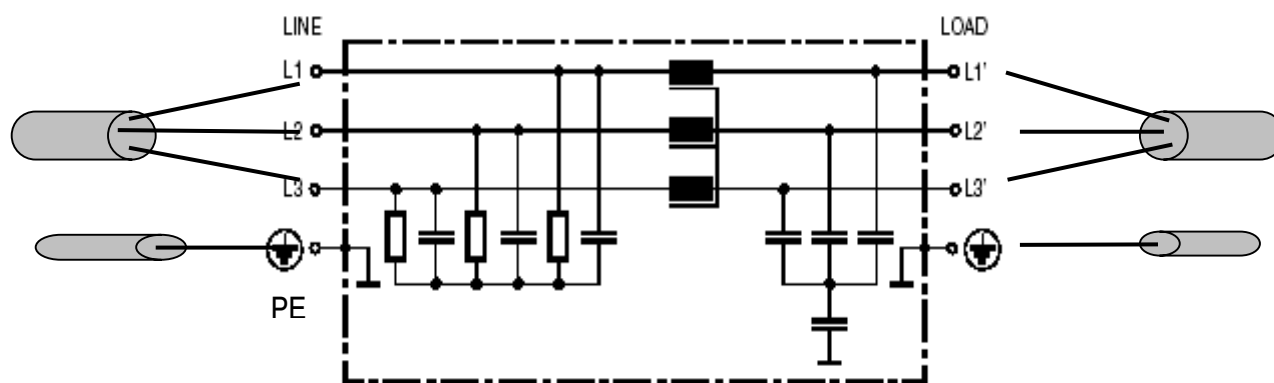

Figure E1.3 Drive connection
- b) Refer to Figure E1.3/4 for filter connection to the drive.